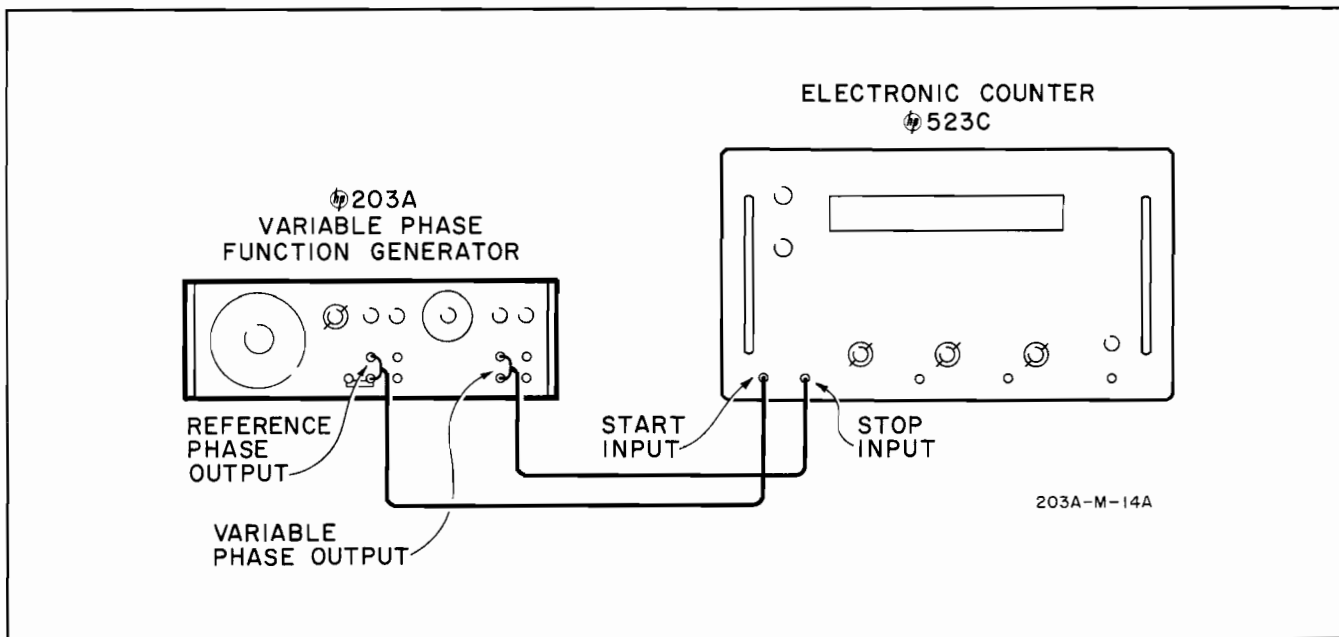

Figure 5-5. Phase Lag Check
- d. Connect Model 203A as shown in figure 5-5.